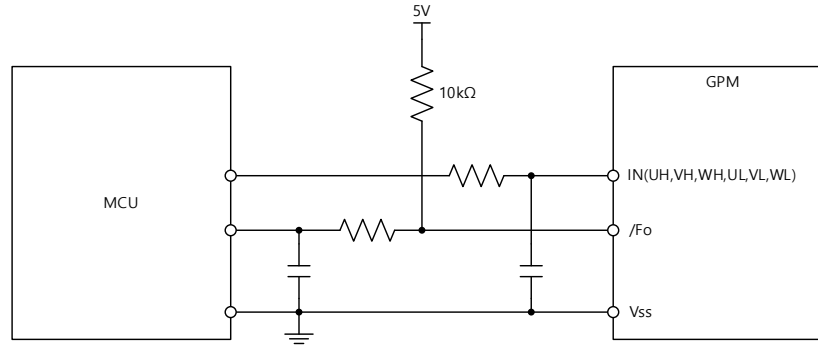

Figure 7. Recommended MCU I/O Interface Circuit
2. Fault output is an open-drain type. This signal line should be pulled up to the positive side of the MCU or control power supply with a resistor that makes I_{FO} up to 1 mA. Please refer to Figure 7.
3. Input signal is active-HIGH type. There is a 5 k Ω resistor inside the IC to pull-down each input signal line to GND. RC coupling circuits should be adopted for the prevention of input signal oscillation. RC time constant should be selected in the range 50~150 ns (recommended R = 100 Ω , C = 1 nF). Please refer to Figure 7.